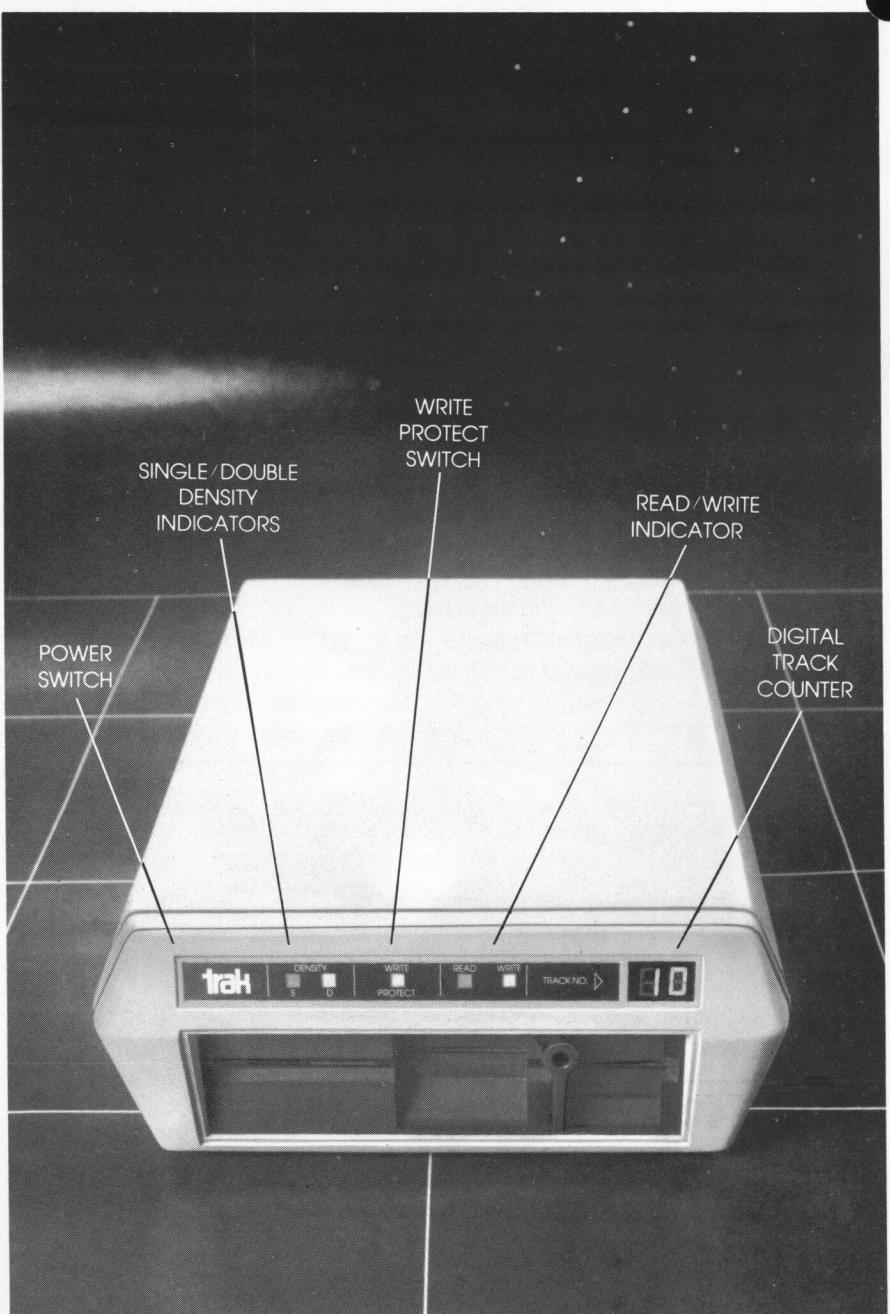

figure 1 Command Control Panel Features of 'AT' Series Drives
- figure 1 Command Control Panel Features of 'AT' Series Drives
**COMMAND CONTROL PANEL** - The command control panel featured on all of our 'AT' series disk drives puts vital information at your fingertips with easy to use, easy to access functions. Take the power switch for example. We put it right up front so it is easy to find. No more groping around the back of the drive to turn it on. Just brush the TRAK name with the tip of your finger and watch the drive come alive and await your command. (See figure 1)